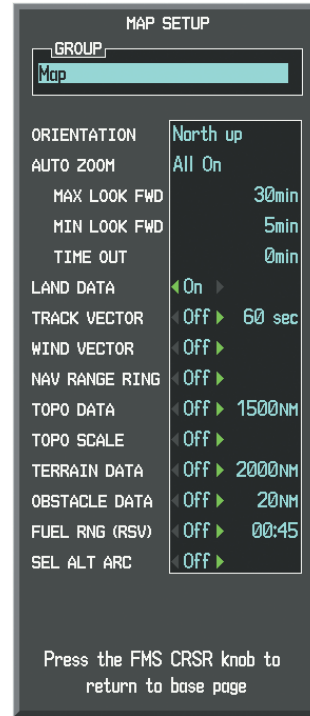

Figure 6-76 Navigation Map Page Setup Menu, Map Group
- 5) Turn the large **FMS** Knob or press the **ENT** Key to scroll through product selections (Figure 6-76).